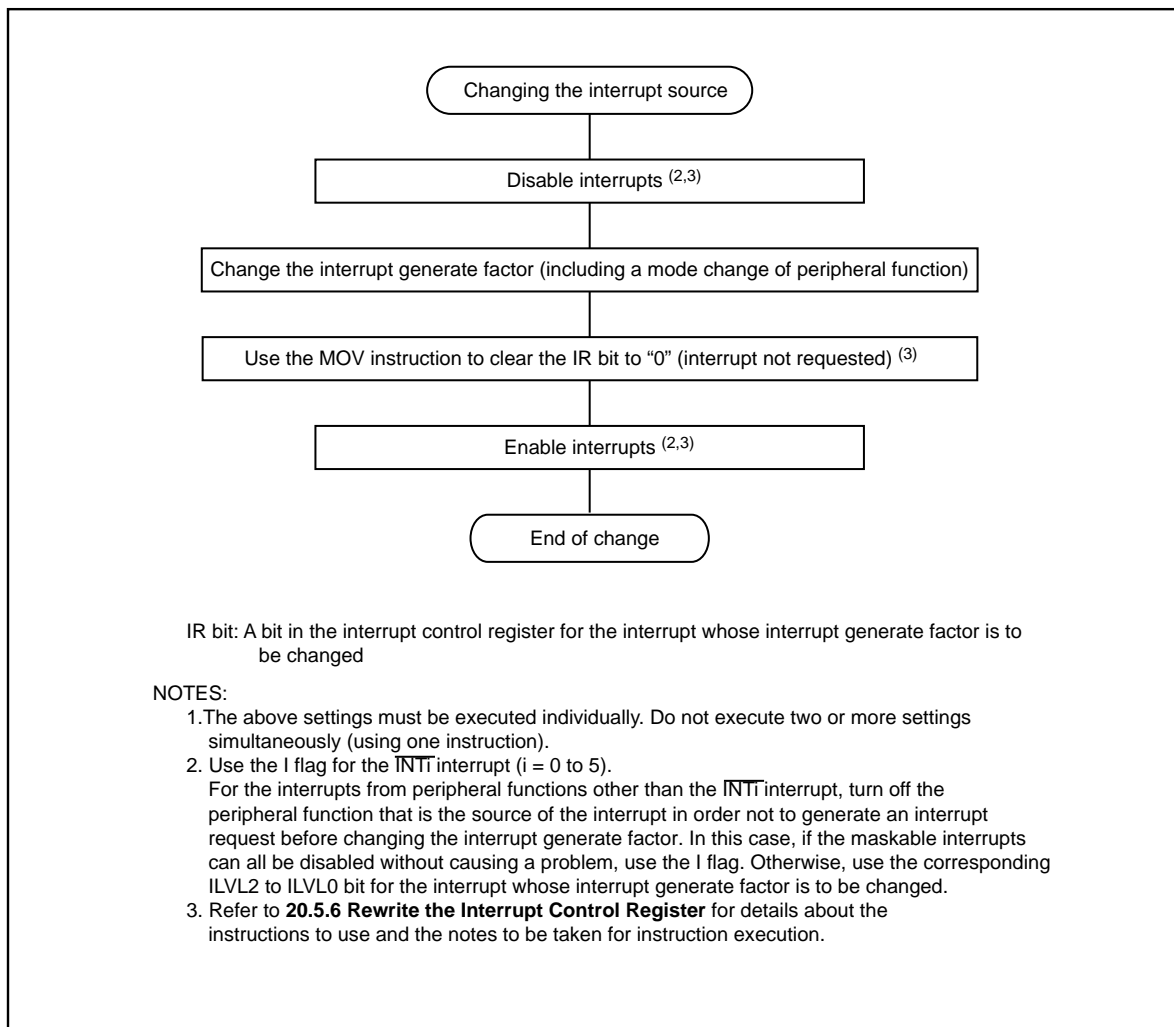

Figure 20.3 Procedure for Changing the Interrupt Generate Factor
**Figure 20.3** shows the procedure for changing the interrupt generate factor.